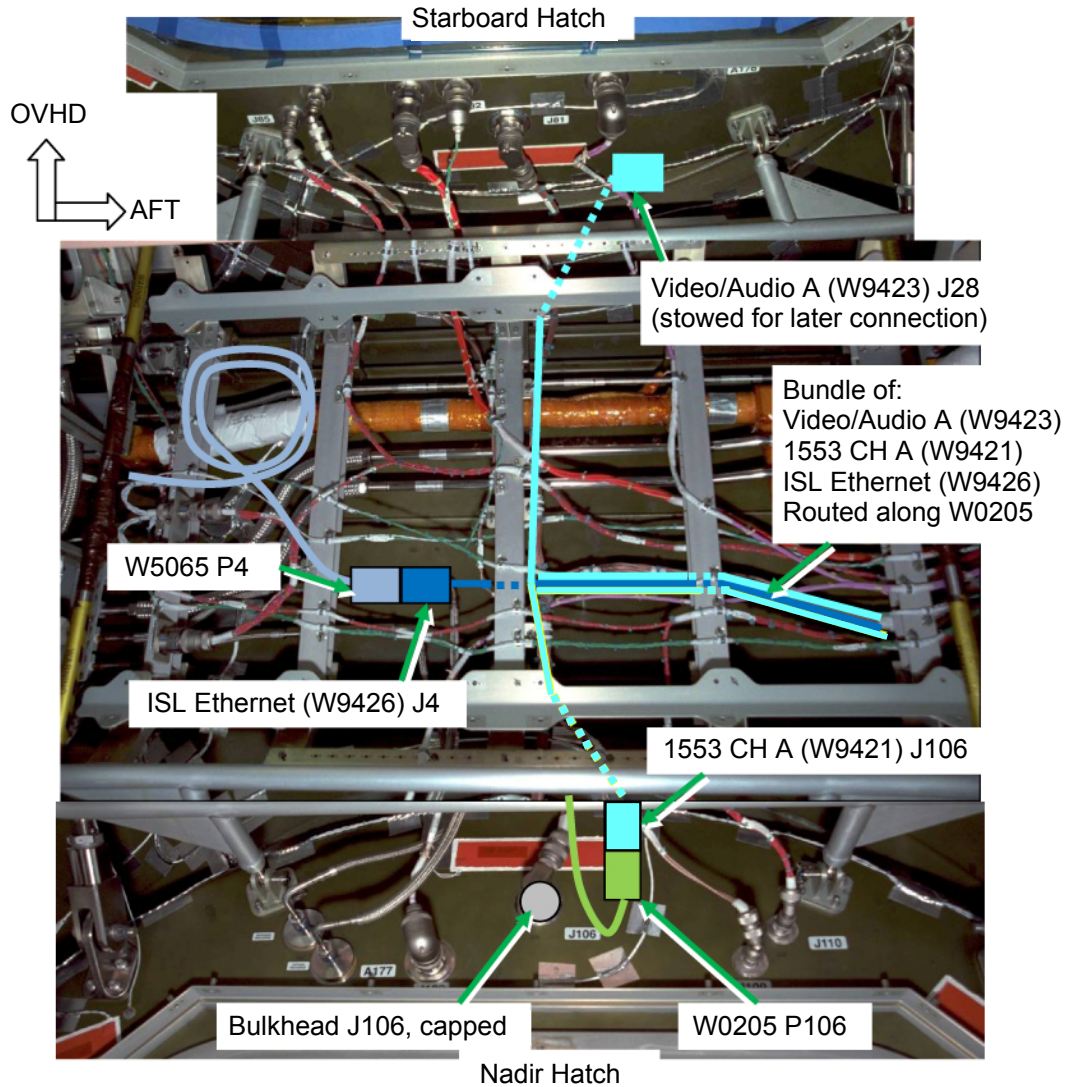

Figure 30.- Routing Cables in NOD1SD2 Area.
- 15.21 Restrain NOD1 ISL Ethernet Cable (W9426) on same routing path as W0205 in NOD1SD2 area as shown in Figure 30.
- 15.30 Restrain NOD1 1553 CH A Cable (W9421) on same routing path as W0205 in NOD1SD2 area as shown in Figure 30.